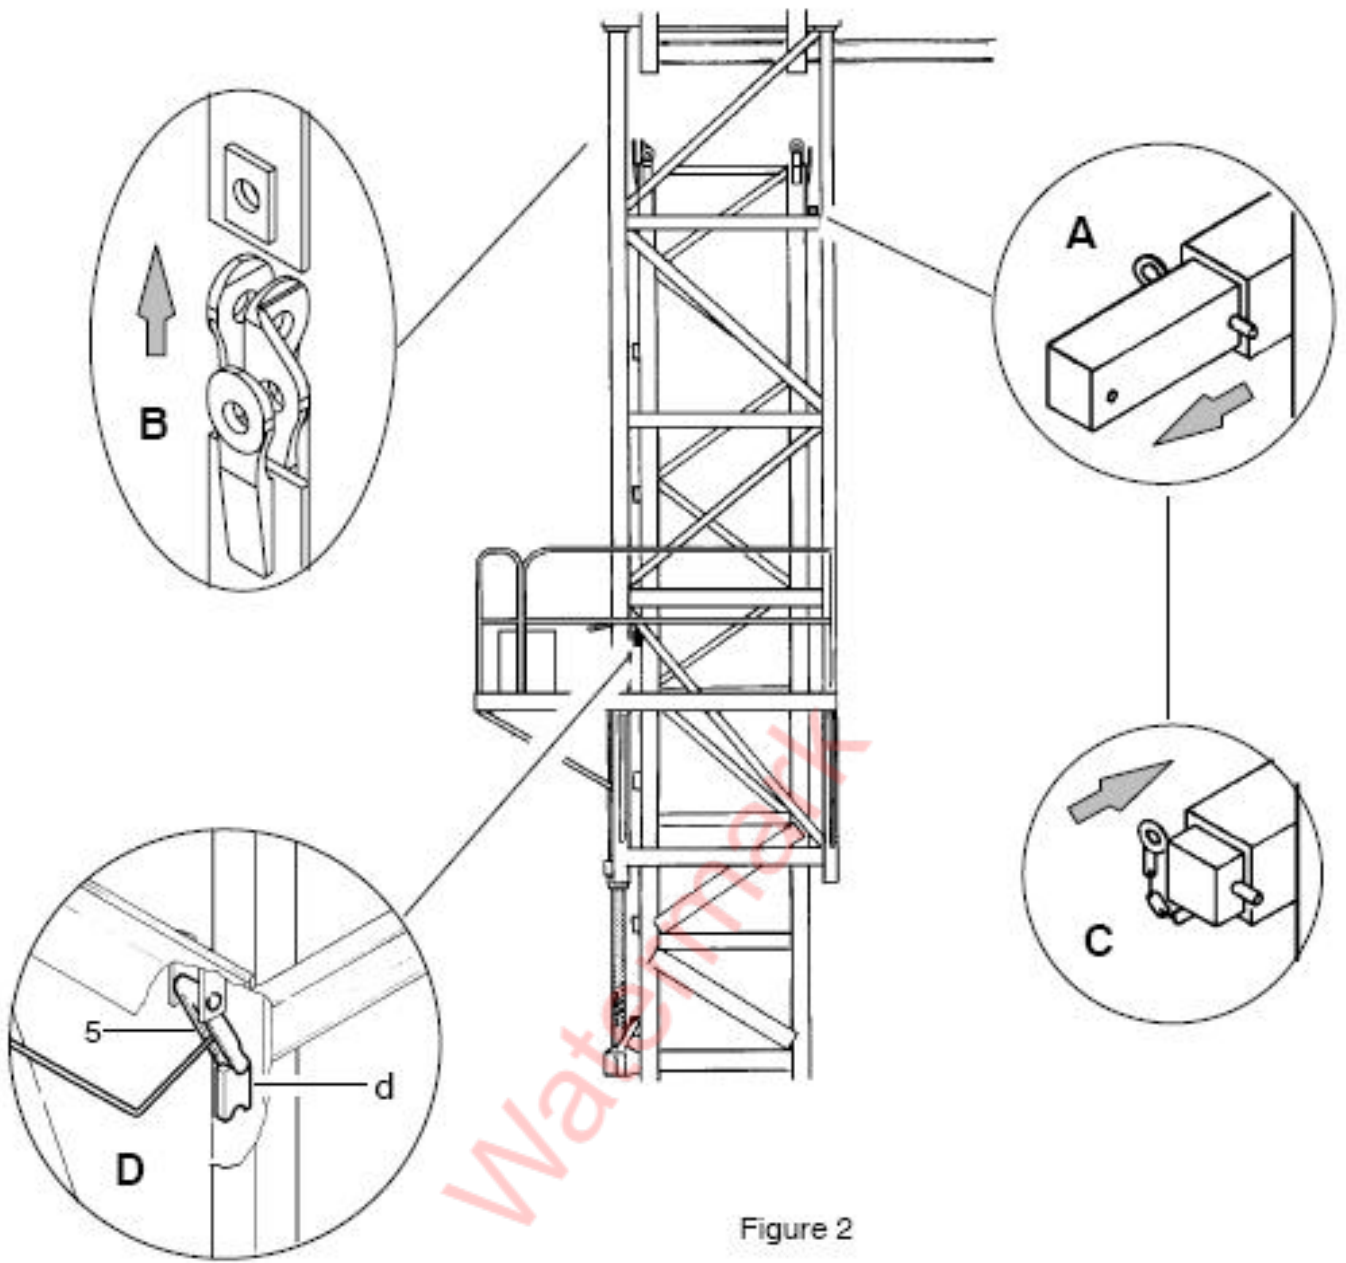

Figure 2
- _ Shut the telescopic cage locks (Detail A – Figure 2).
- _ Operate the lever of the hydraulic unit in the “up” direction. Slowly telescope until the telescoping connecting mast feet just leave the fishplates of the basic mast (Detail B – Figure 2).
- _ If required, readjust the balancing given in chapter by manoeuvring the jib trolley. The exact balancing position is found by verifying the alignment of the telescopic connecting mast feet with the basic mast fishplates and checked by reading the minimum pressure required for telescoping on the pressure gauge of the hydraulic unit. After balancing, open the locks (Detail C – Figure 2).
- _ Telescope until the telescopic cage pawls (5), kept away from the mast, are above the lugs (d) of the basic mast (Detail D – Figure 2).
- _ Slowly operate the hydraulic unit lever in “down” direction in order to rest the pawls (5) onto the lugs (d) (Detail D – Figure 2).